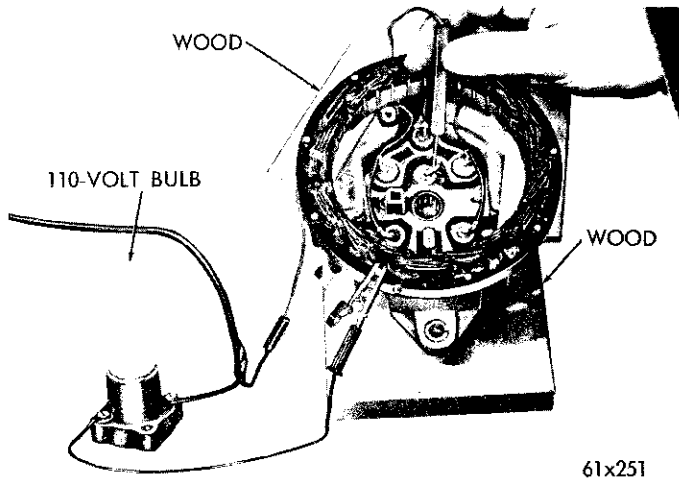

Fig. 38—Testing Stator for Grounds
(4) Inspect the stator connections.
(5) Test the stator for grounds using a 110 volt test lamp (Fig. 38). Use wood slats to insulate the stator from the rectifier shield. Contact one prod of the test lamp to the stator pole frame, and contact the other prod to each of the three stator leads. The test lamp should “not light.” If the test lamp lights, the stator windings are “grounded.” (See Fig. 38.)